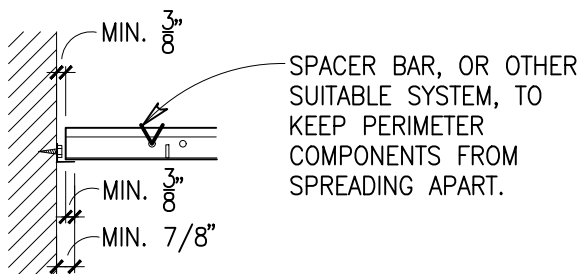

FIGURE 1
5) ALL PERIMETER CLOSURE ANGLES OR CHANNELS MUST PROVIDE A SUPPORT LEDGE OF APPROXIMATELY 7/8 IN. OR GREATER. A TERMINAL END OF A GRID MEMBER (OR TILE) MUST REST ON THE LEDGE OR MOLDING WITH AT LEAST 3/8-IN. CLEARANCE FROM AN EDGE OR WALL AS SHOWN IN FIGURE 1.